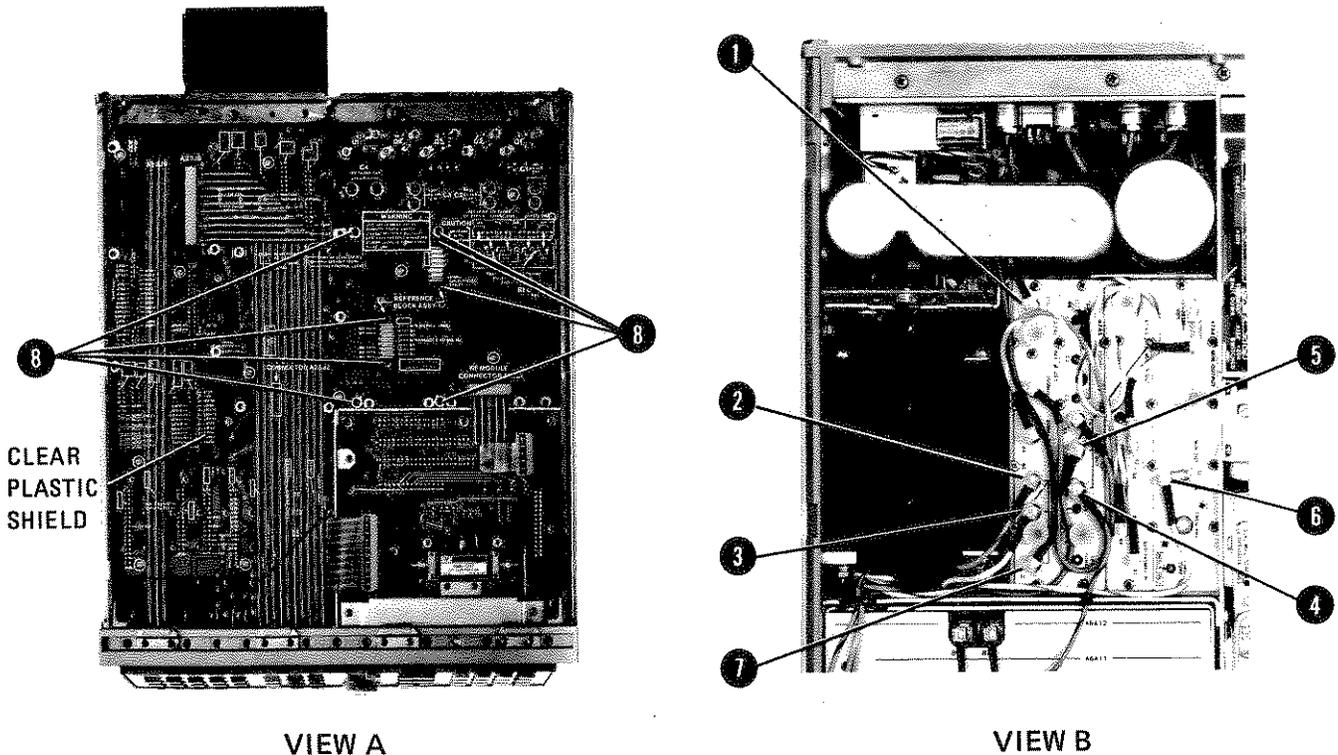

FIGURE 1. A7 M/N REFERENCE REMOVAL AND INSTALLATION
3. Remove clear plastic shield from motherboard (Figure 1, VIEW A) by removing all nylon screws. Remove eight screws (8) from the motherboard (refer to View A). Note: Screws are marked on motherboard with the letter "B" for easy identification.